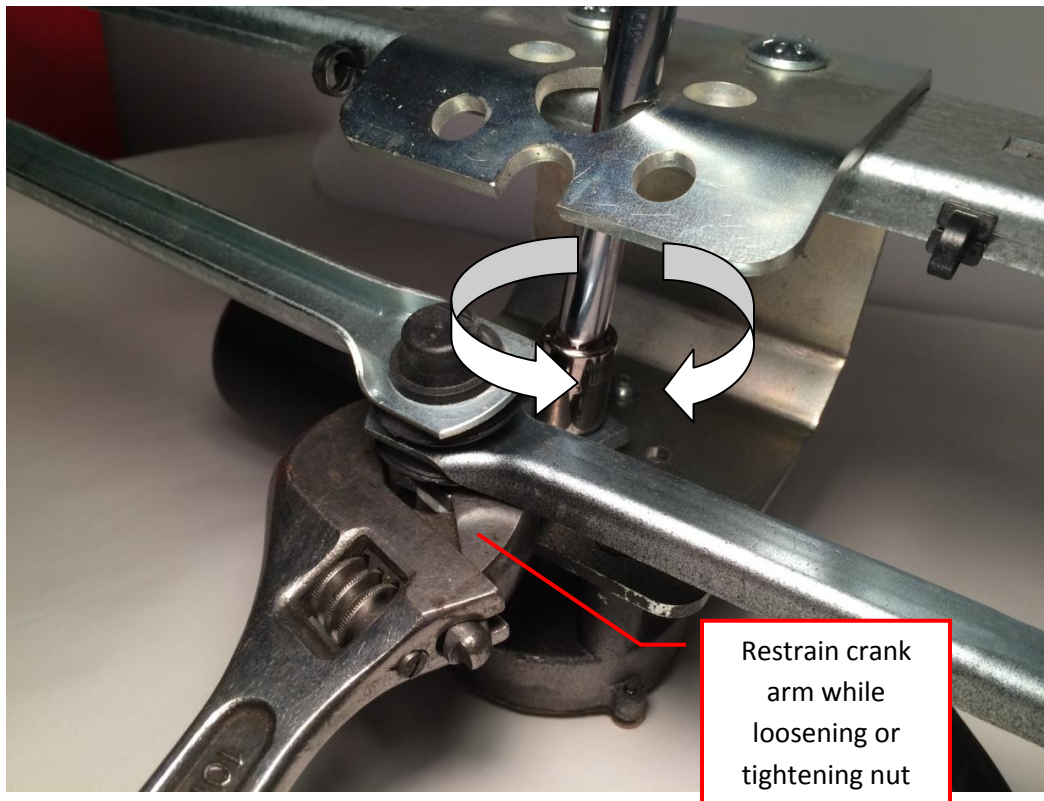

Fig. 1 Crank arm rotated down and restrained while nut is removed or tightened
13. Using a 1" open end wrench, rotate the motor crank arm so that it is pointing down at 6 o'clock (fig. 1).
22. Use the 1" open end wrench and rotate the motor crank so that it is pointing at 6 o'clock. This will give access to the crank nut with the torque wrench & socket (fig. 1).
23. Restrain the motor crank arm with the 1" open end or adjustable wrench and torque the motor crank arm nut to 20 ft-lbs using the 13 mm socket (fig. 1).